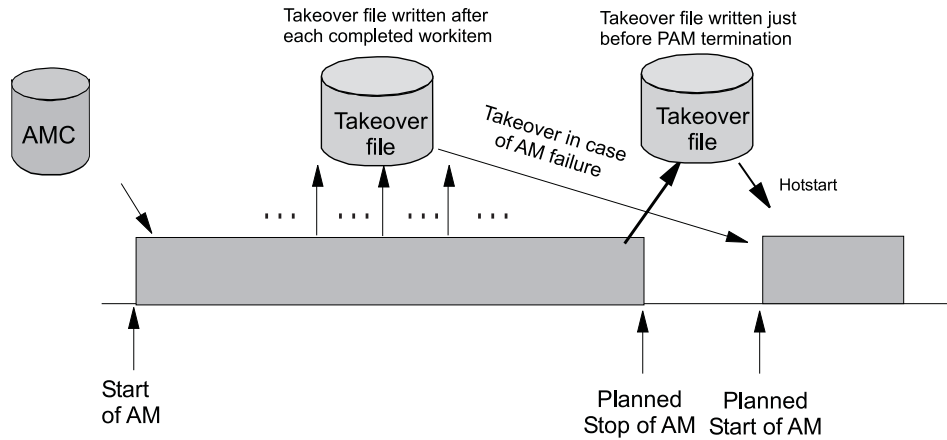

Figure 6. Using Only the Takeover File for Status Backup
Figure 6 on page 40 illustrates the timeline from the start of the automation manager (AM) through to its termination for the following cases: